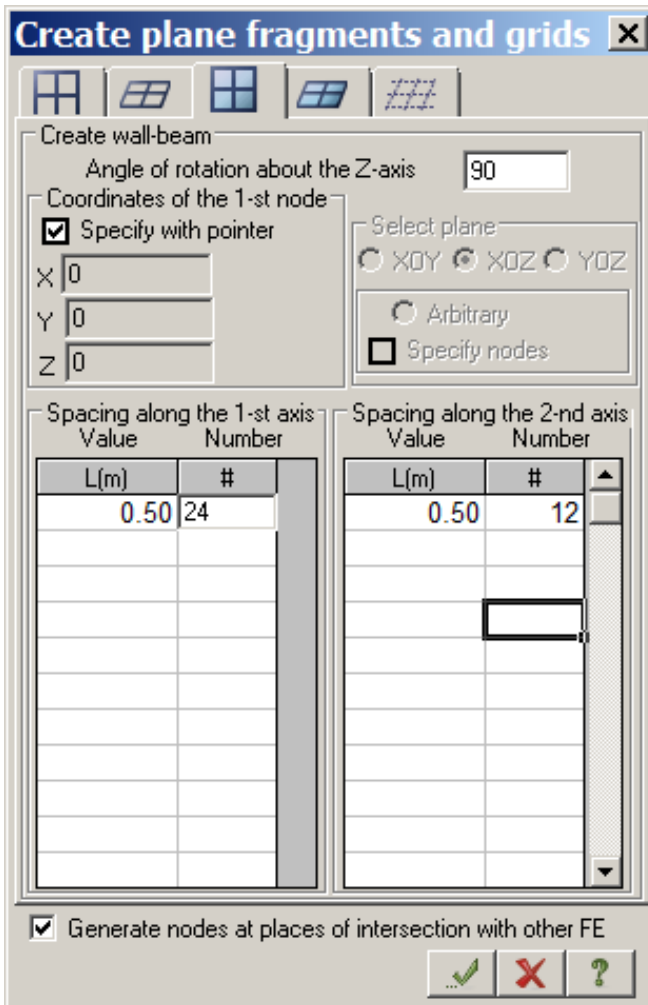

Figure 4.5 Create regular fragments and grids dialog box
- ⇒ In the **Create plane fragments and grids** dialog box (see Fig.4.5), specify **angle of rotation about the Z-axis** as equal to 90 degrees.